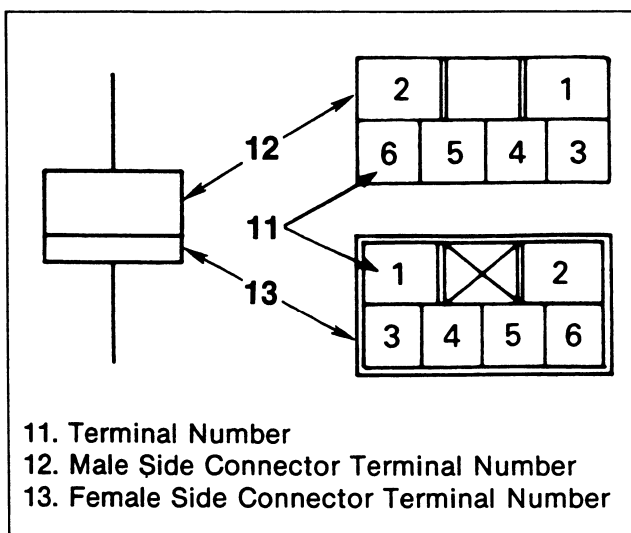

Figure 34. Connector Terminal Number
Connector, diode, and relay terminal numbers (11) are clearly shown (figure 34).